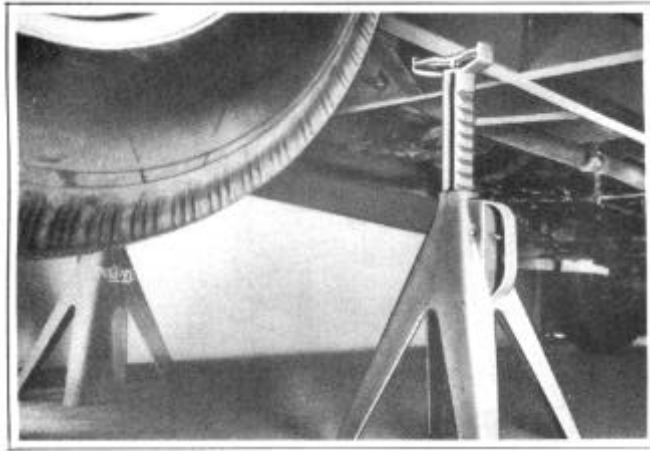

FIGURE 37
1. Jack up rear of car using stand jacks placed under frame, Figure 37.